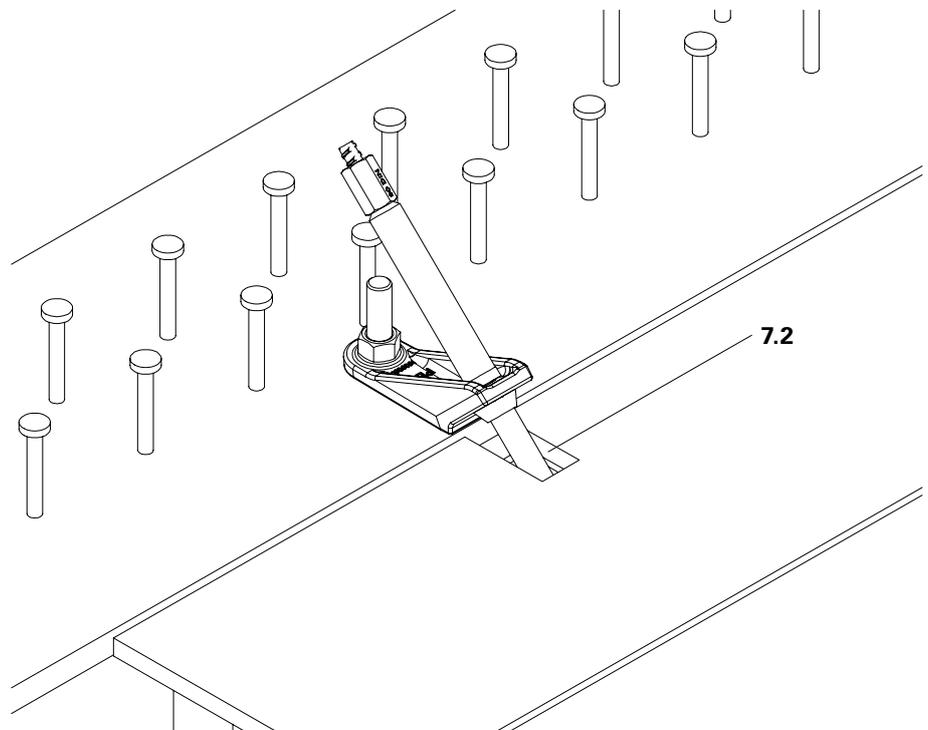

Fig. B4.02
3. Remove excess building foam until the level is flush with the planking surface. (Fig. B4.02)